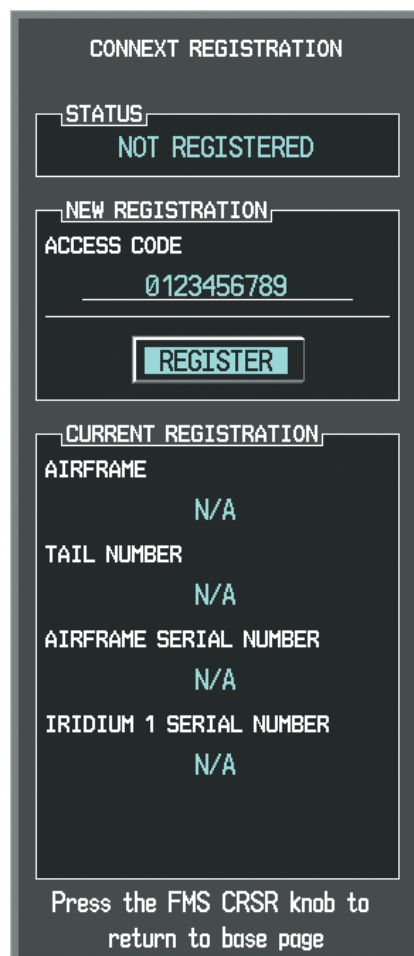

Figure 6-56 Enter Access Code
- 6) Press the **ENT** Key. The system displays the CONNEXT REGISTRATION Window as shown in Figure 6-56.
- 8) Press the **ENT** Key. 'REGISTER' will now be highlighted as in Figure 6-56.